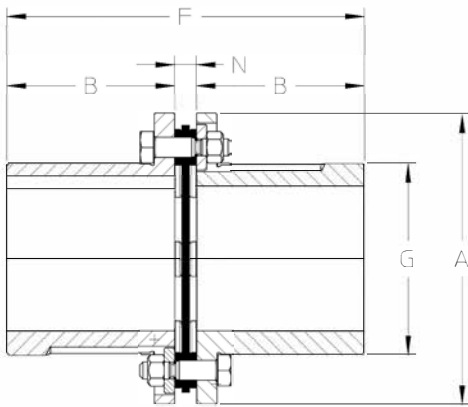

Figure 9 – XTSTRS Standard Hubs
As a guide, the maximum and minimum values for dimension “N” shown in Figure 9 are given in Table 3. These dimensions are suggested for initial installation. Additional capacity is available to compensate for thermal and structural equipment movement. Maximum axial capacity values for these couplings are also given in Table 3.
- 9.3. Verify that the hubs have been mounted to provide the correct "N" dimension shown in Figure 9 and defined in Table 3. The "N" dimension is the distance measured between the faces of the two hub flanges.
As a guide, measure the distance between flanges known as dimension 'N' shown in Figure 9 and given in Table 3.